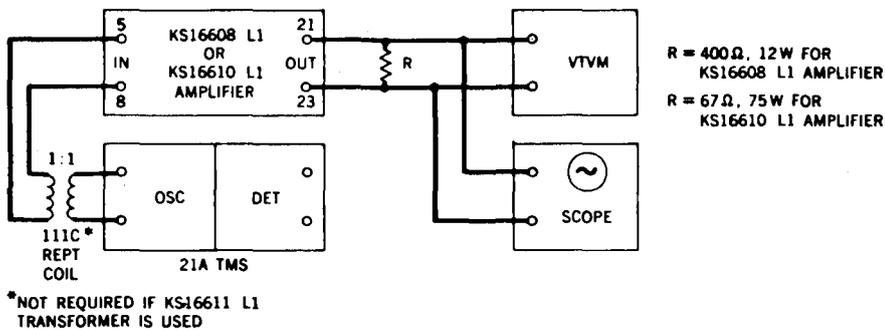

Fig. 7—Test Setup for Observing Distortion
**7.01** The distortion of the amplifier should be observed in accordance with the test setup shown in Fig. 7. Chart 3 outlines the step procedure for this test.
| 2    | Connect circuit as shown in Fig. 7.               |         |